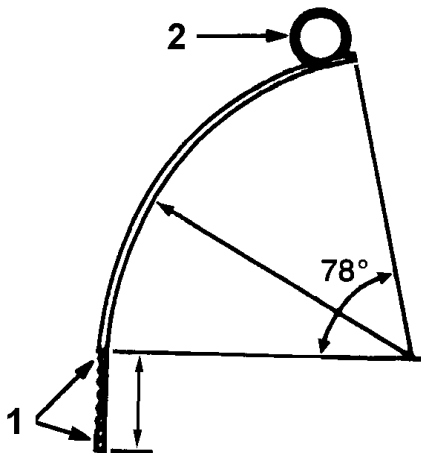
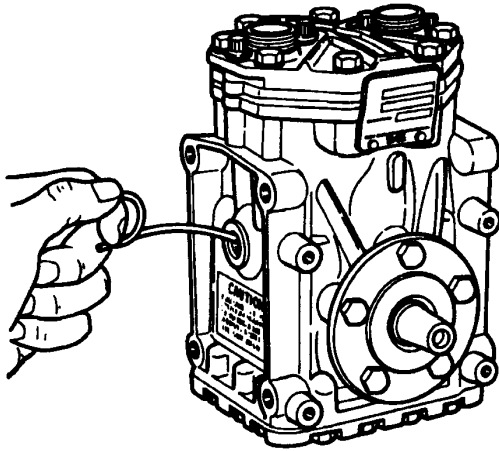

Figure 45 Specially Constructed Dipstick for CCI Compressors
Figure 46 Checking Oil Level in CCI Compressor
The oil level in CCI compressors can be checked with the compressor mounted in the vehicle or on the bench. Whether mounted in the vehicle, or sitting on the bench, the compressor oil level can be checked by using a specially-constructed dipstick (Figure 45). When the compressor is mounted in the vertical position, the oil level may be checked from the right or left side (Figure 46). When mounted in the horizontal position, the fill plug is on the top.
3. Insert the dipstick as shown in Figure 46. Remove dipstick and count increments of oil. The dipstick notched end is helpful in visibly determining the measured oil depth.